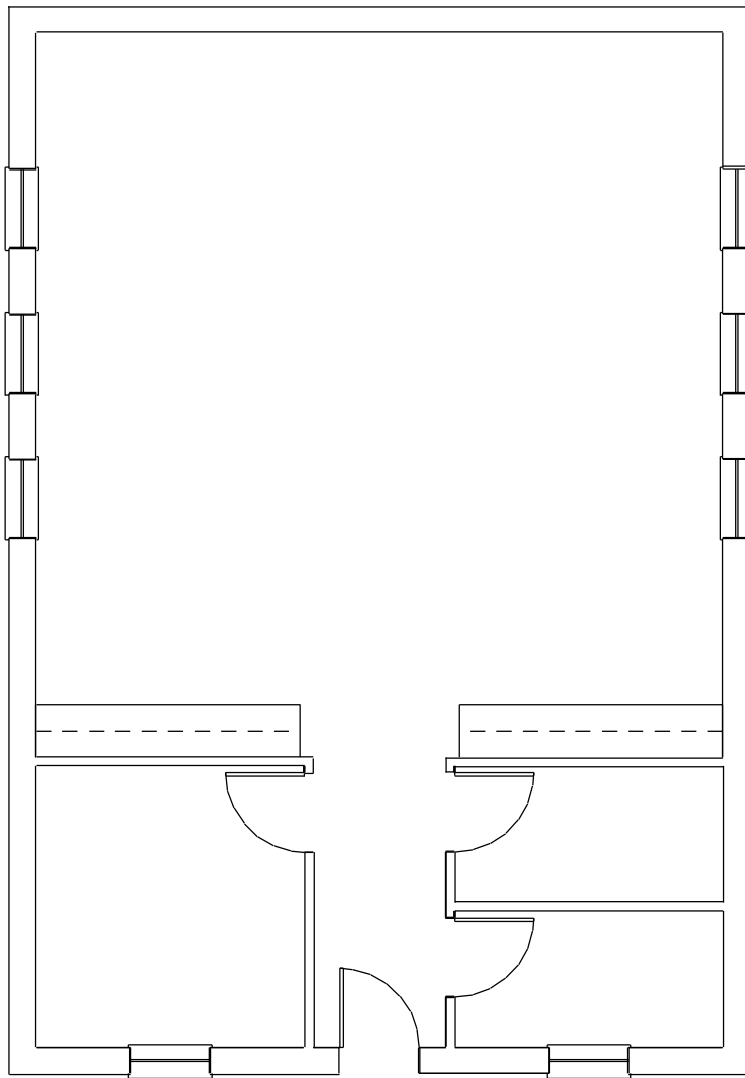

Figure 3.49: The Schoolhouse floor plan.
26. Click  on the Navigation Pad to view the extents of the drawing. Your plan should look like Figure 3.49.